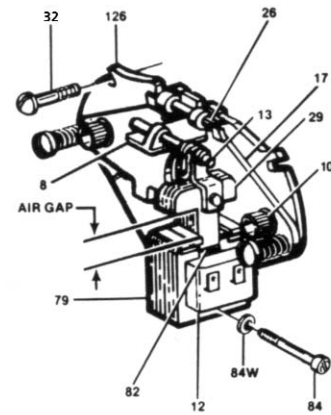

Figure 1. Motor Brake Adjustment
The motor brake should be checked periodically for wear of the friction discs and/or proper adjustment of the solenoid air gap. Refer to Figure 1. Normal lining wear will cause the solenoid lever (8) to move away from the solenoid frame (79) and thus increase the air gap and trolley stopping time.
Replacement of Coil (Refer to Figure 1 on page 17 and Exploded View Drawing on page 47).
2. Remove housing (3) from the brake and disconnect the coil wires from the cord.
3. Insert screw driver between support plate (126, Fig.1) and the top of lever arm (17, Fig.1). Wedge these apart and remove bearing pin (26, Fig.1) and solenoid lever (8, Fig.1) with link (13, Fig.1) and plunger (29, Fig.1).
4. Remove plunger guide screw (84, Fig.1) and both plunger guides (82, Fig.1). Slide old coil sideways out of the frame (79, Fig.1). If coil is difficult to move, tap lightly with a soft hammer.
5. Install new coil in the same relative position as the old coil and replace the plunger guides (82, Fig.1) and screw (84 and 84W, Fig.1).